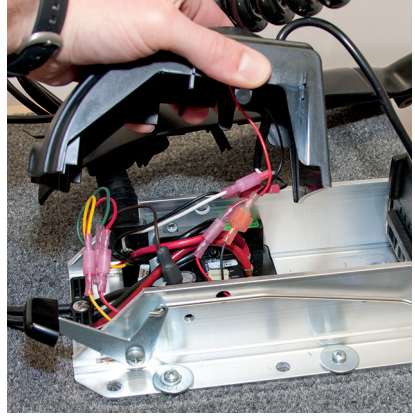

FIGURE 27
14. Remove center housing by pushing in on both sides and lifting up at the same time. This will expose the main control board and wiring. (Figure 27)